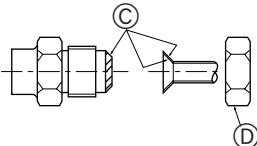

Fig. 5-1
5.2. Connecting pipes (Fig. 5-1)
- Apply thin layer of refrigerant oil to pipe and joint seating surface before tightening flare nut. ①
- Use two wrenches to tighten piping connections. ②
- Apply refrigerating machine oil over the entire flare seat surface. ③
- Use the flare nuts as follows. ④
Ⓐ (Fig. 5-1)
Ⓑ (Fig. 5-1)